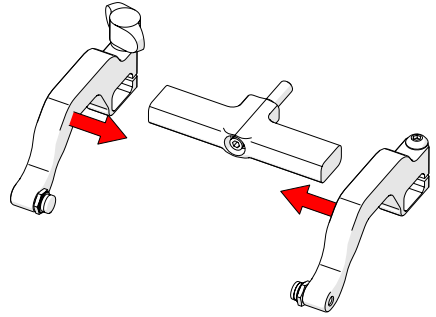

Fig. 139 - Place arms back onto yoke
6. Place the probe holder arms on the yoke and tighten the arm clamp screw and probe holder adjustment knob (Fig. 139).